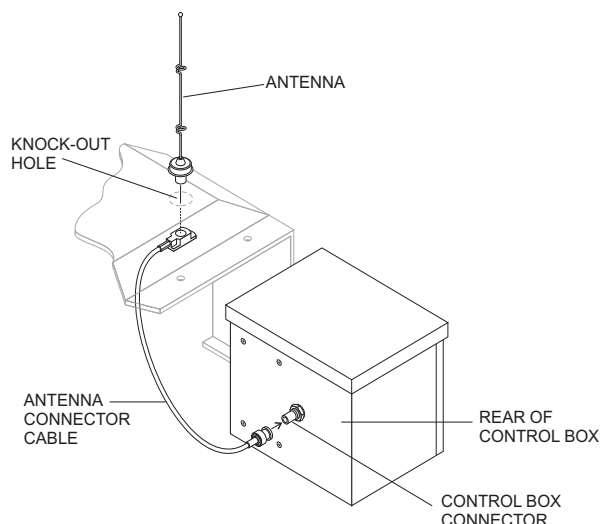

Figure 36. Antenna Installation
5. On the top of the unit, to the right of the control box (Figure 36), hammer out the knock-out hole and install the remote antenna.
6. Connect the antenna cable to the connector on the rear of the control box (Figure 36).